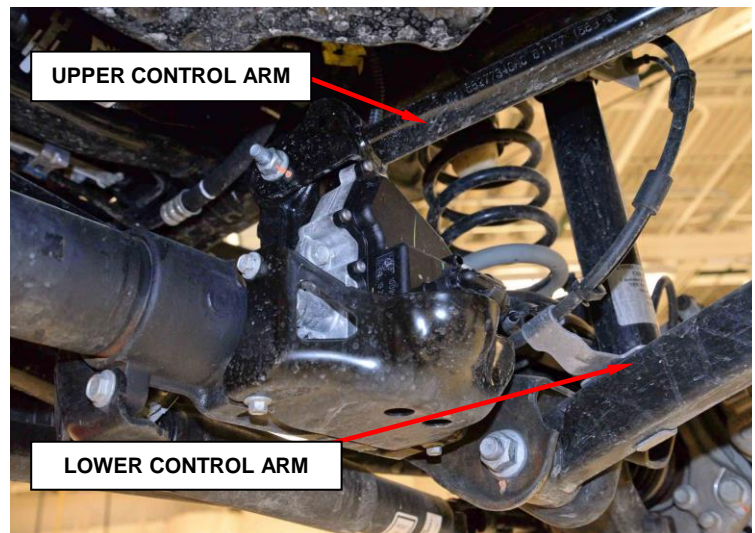

Figure 16 – Control Arms
25. Remove upper control arms bolts and nuts from the axle brackets then move control arms from axle brackets (Figure 16).
26. Loosen the front lower control arm nuts on both sides (Figure 16).
29. Remove lower control arm bolts (Figure 16).
6. Attach the upper control arms onto the axle (Figure 16).
7. Install upper control arm bolts and nuts and tighten to 100N·m plus 65° (74ft.lbs.) plus 65°. (Figure 16).
8. Attach the lower control arms into the axle brackets (Figure 16).
9. Install lower control arm bolts and nuts and tighten to 100N·m plus 50° (74ft.lbs.) plus 50°. (Figure 16).